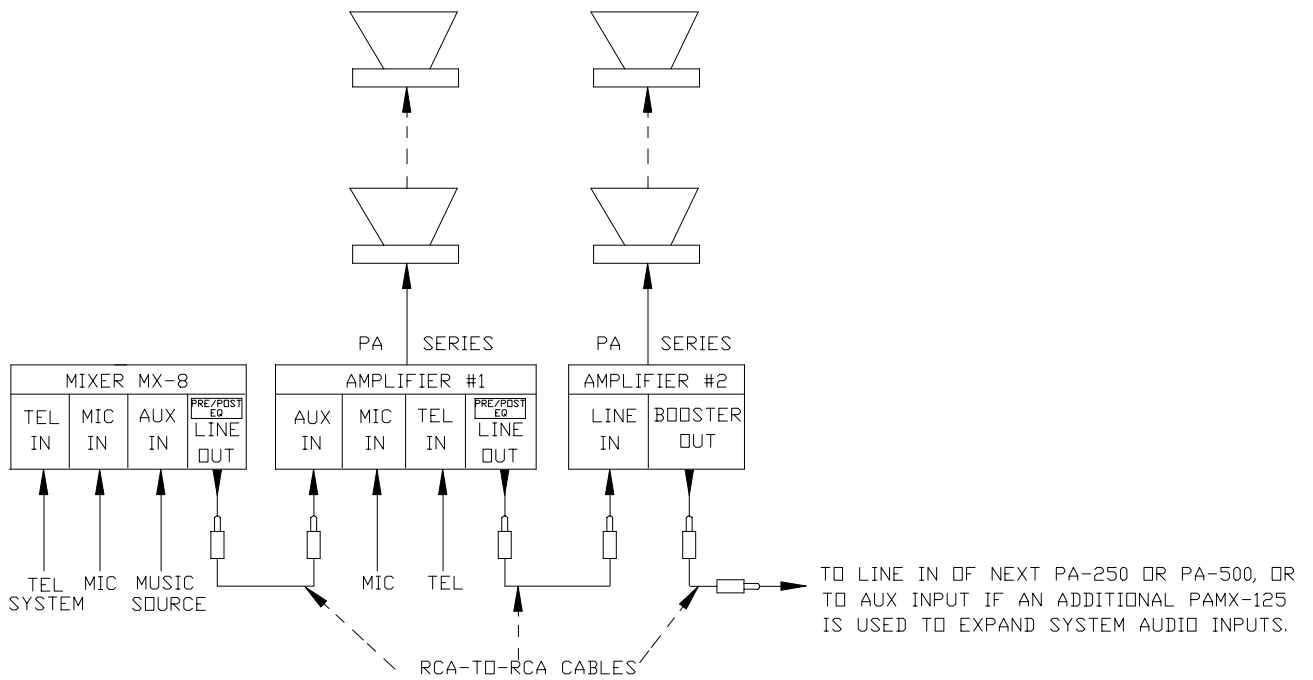

Figure 4: Cascading Amplifiers
12. CASCADING AMPLIFIERS FROM MIXER (SEE FIGURE 4):